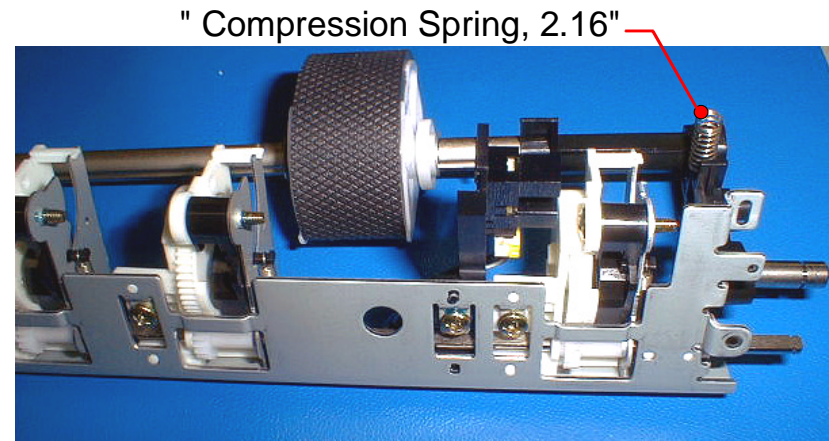

Figure 4-164. Setting "Compression Spring,2.16"
- 30. Install "Compression Spring,2.16" to the pin on the "Lever, Roller, Paper Feed, Right". (See figure4-164)